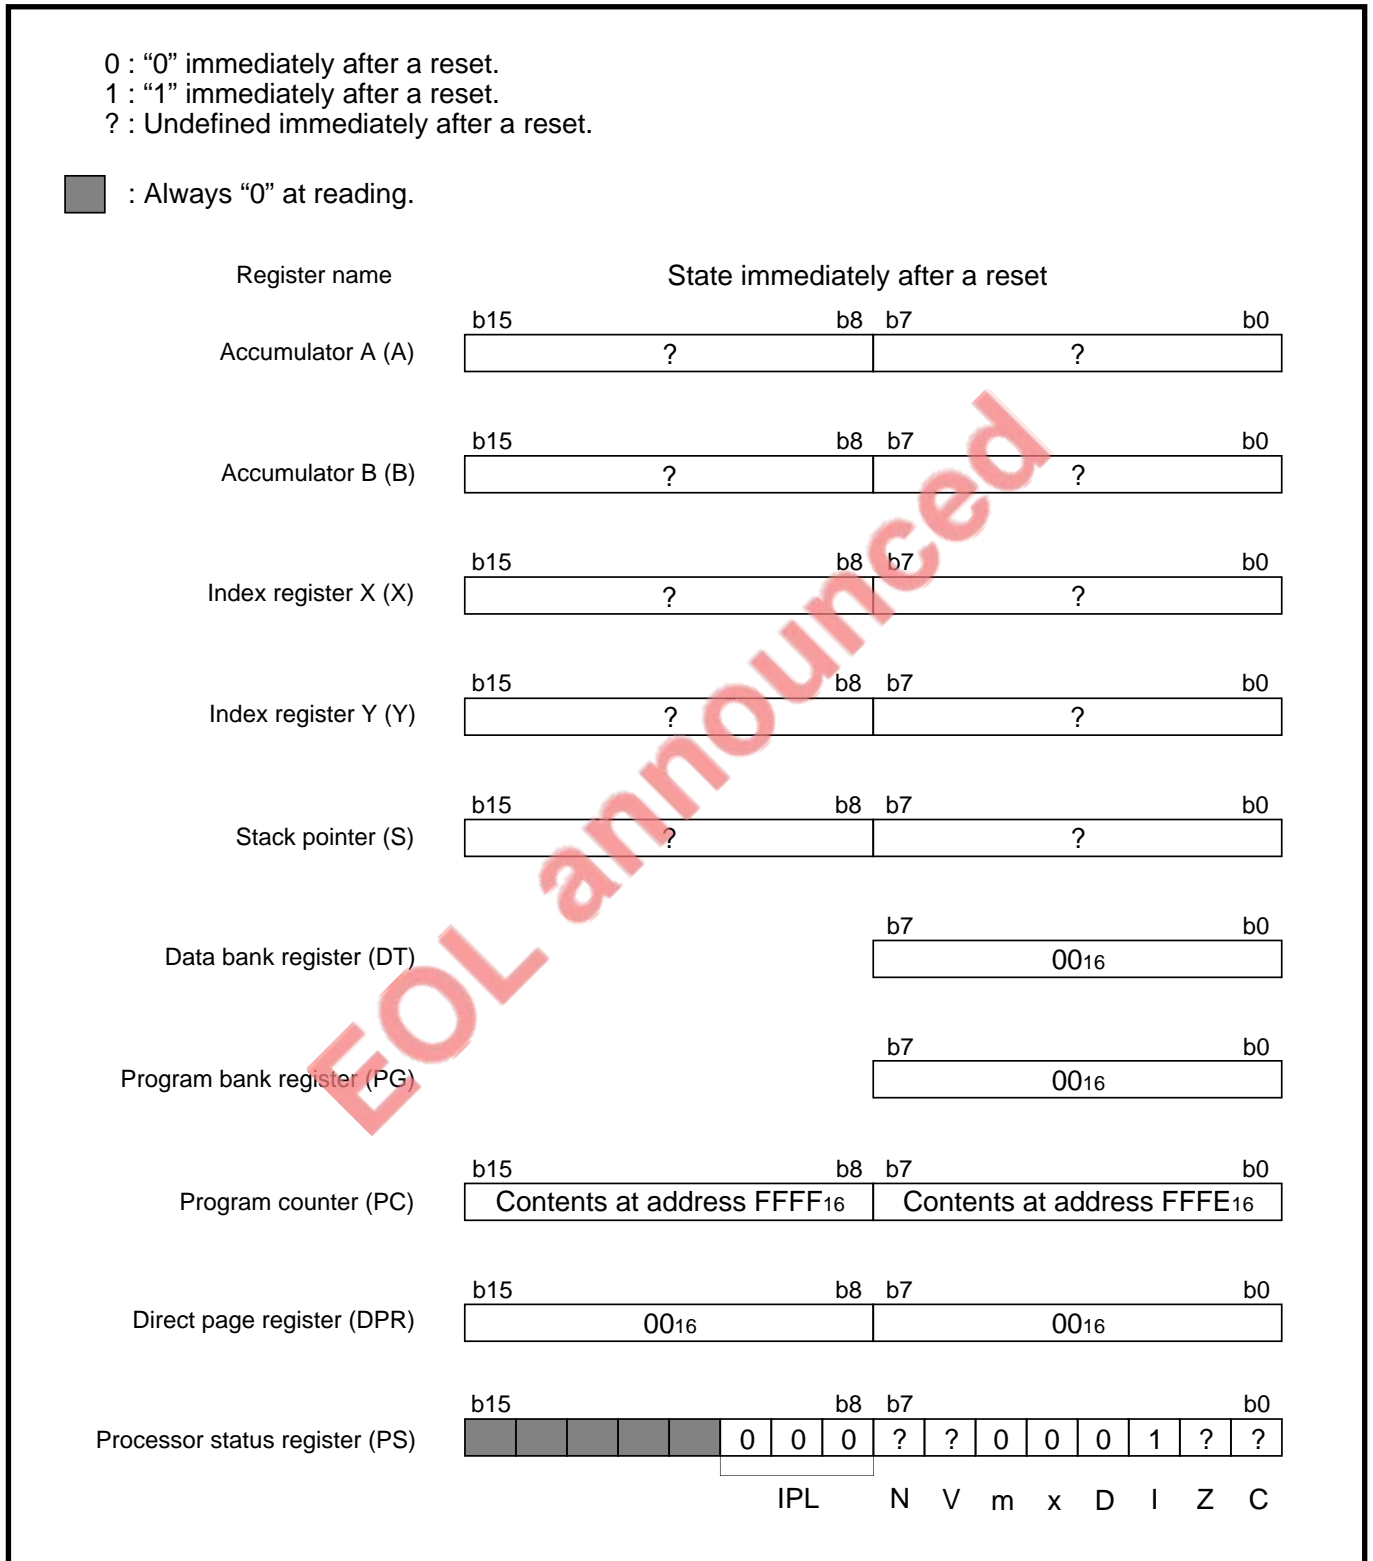

Fig. 13.1.2 State of CPU registers immediately after reset
- ① After supplying "L" level to the $\overline{\text{RESET}}$ pin, the microcomputer initializes pins within a term of several tens of ns. (Refer to Table 13.1.1.)
- ② While the $\overline{\text{RESET}}$ pin is "L" level and within the term of 4 to 5 cycles of the internal clock ϕ after the $\overline{\text{RESET}}$ pin goes from "L" to "H," the microcomputer initializes the central processing unit (CPU) and SFR area. At this time, the contents of the internal RAM area become undefined (except when Stop or Wait mode is terminated). (Refer to Figures 13.1.2 to 13.1.6.)
Figure 13.1.2 shows the state of the CPU registers immediately after reset. Figures 13.1.3 to 13.1.6 show the state of the SFR area and internal RAM area immediately after reset.